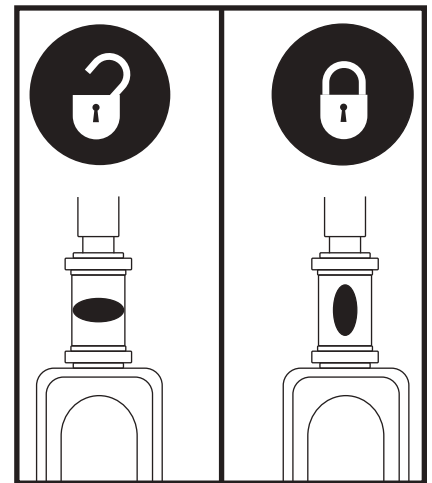

Figure 35. Tiller Lock Knob
2. Lock the tiller in the straight ahead position by pushing the tiller lock knob in and turning it clockwise 90°. See **figure 35**. The front wheel must face forward in order to lock the tiller.
1. Remove the key from the key switch and then lock the tiller in the straight ahead position by pushing the tiller lock knob in and turning it clockwise 90°. See **figure 35**. The front wheel must face forward in order to lock the tiller.
6. Unlock the tiller by turning the tiller lock knob 90° counterclockwise. **See figure 35.**